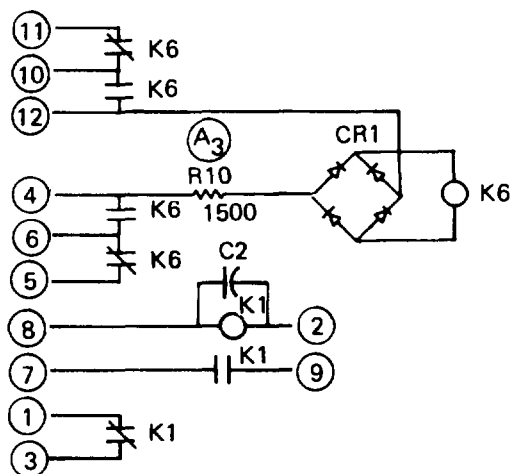

Figure 3-58. Control Cubicle Relay Assembly, Schematic Diagram
(5) Testing.
- (a) Using an ohmmeter or similar device, check relay assembly continuity using figure 3-58 as a guide.